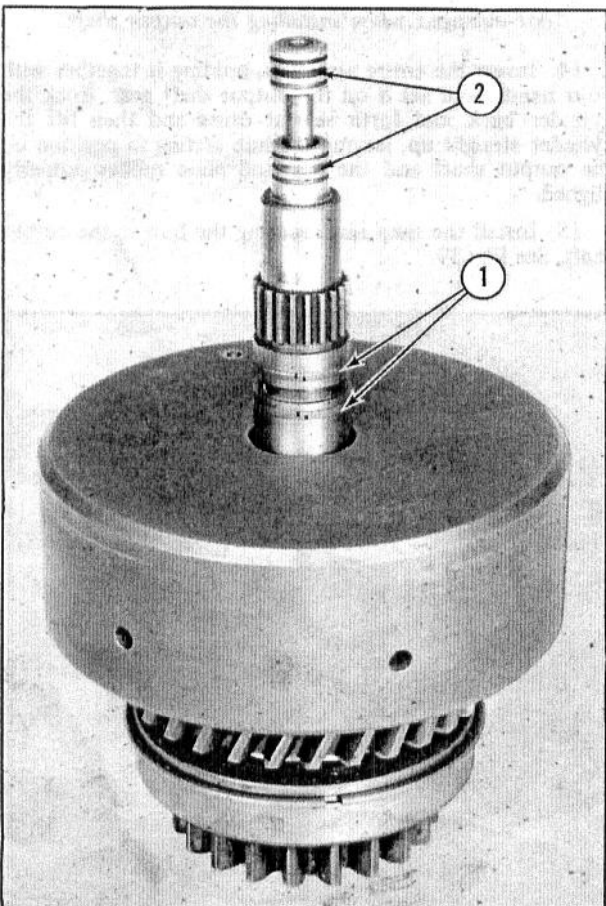

Fig. 51 - Installing Steel Sealing Rings
17. Install two new interlocking steel sealing rings, on either side of the upper oil groove on the output shaft, as shown in Fig. 51.
21. Install the two butt joint steel sealing rings in the upper end of the output shaft. One ring goes in the center groove of each 3 groove cluster. See Fig. 51.